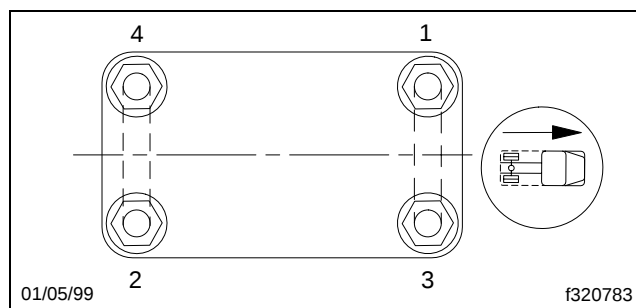

Fig. 4, U-Bolt Nut Tightening Sequence
19.3 Replace the second U-bolt on the left side, and evenly tighten the U-bolts 60 lbf·ft (81 N·m) in the sequence shown in **Fig. 4**.